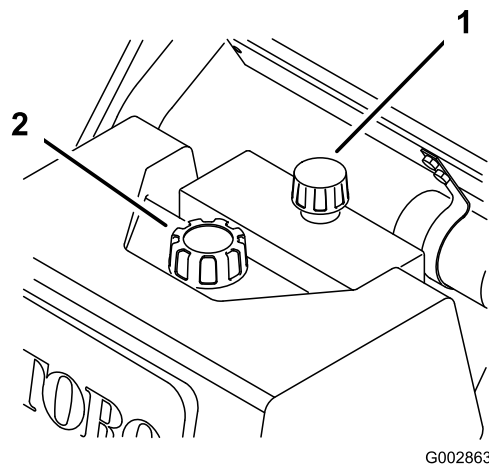

Figure 37
2. Clean area around filler neck and cap\dipstick of hydraulic tank (Figure 37).